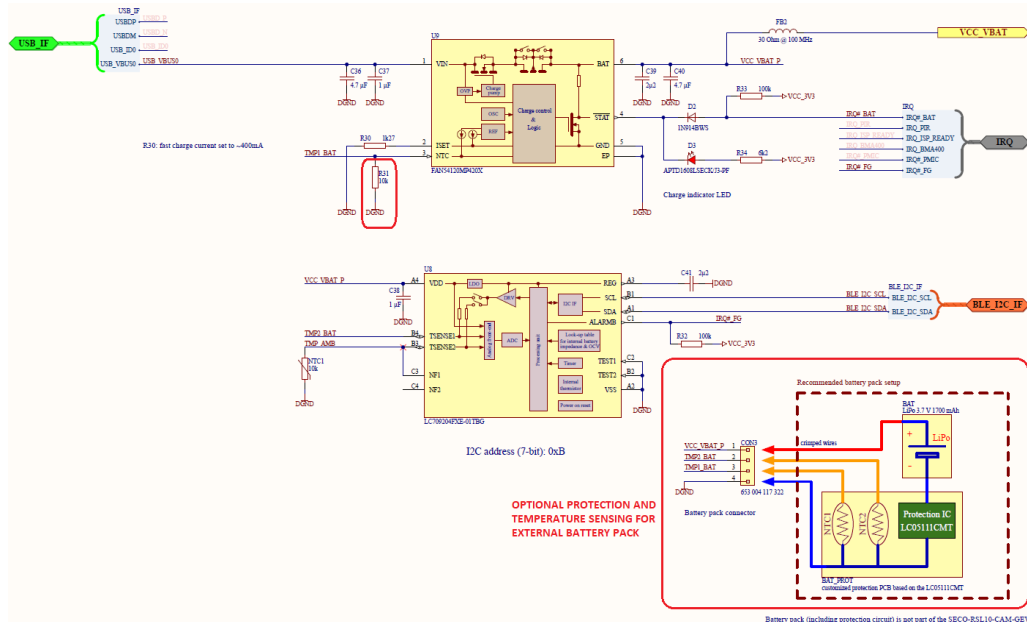

Figure 9. R31 = 10 k Ω to be Removed Once External Li Battery and it's Protection Circuit Connected
1. Remove R31: the 10 k Ω resistor emulates the external NTC sensor. As the board is not delivered with a battery, this dummy resistive load must be connected towards FAN54120 (Figure 9).